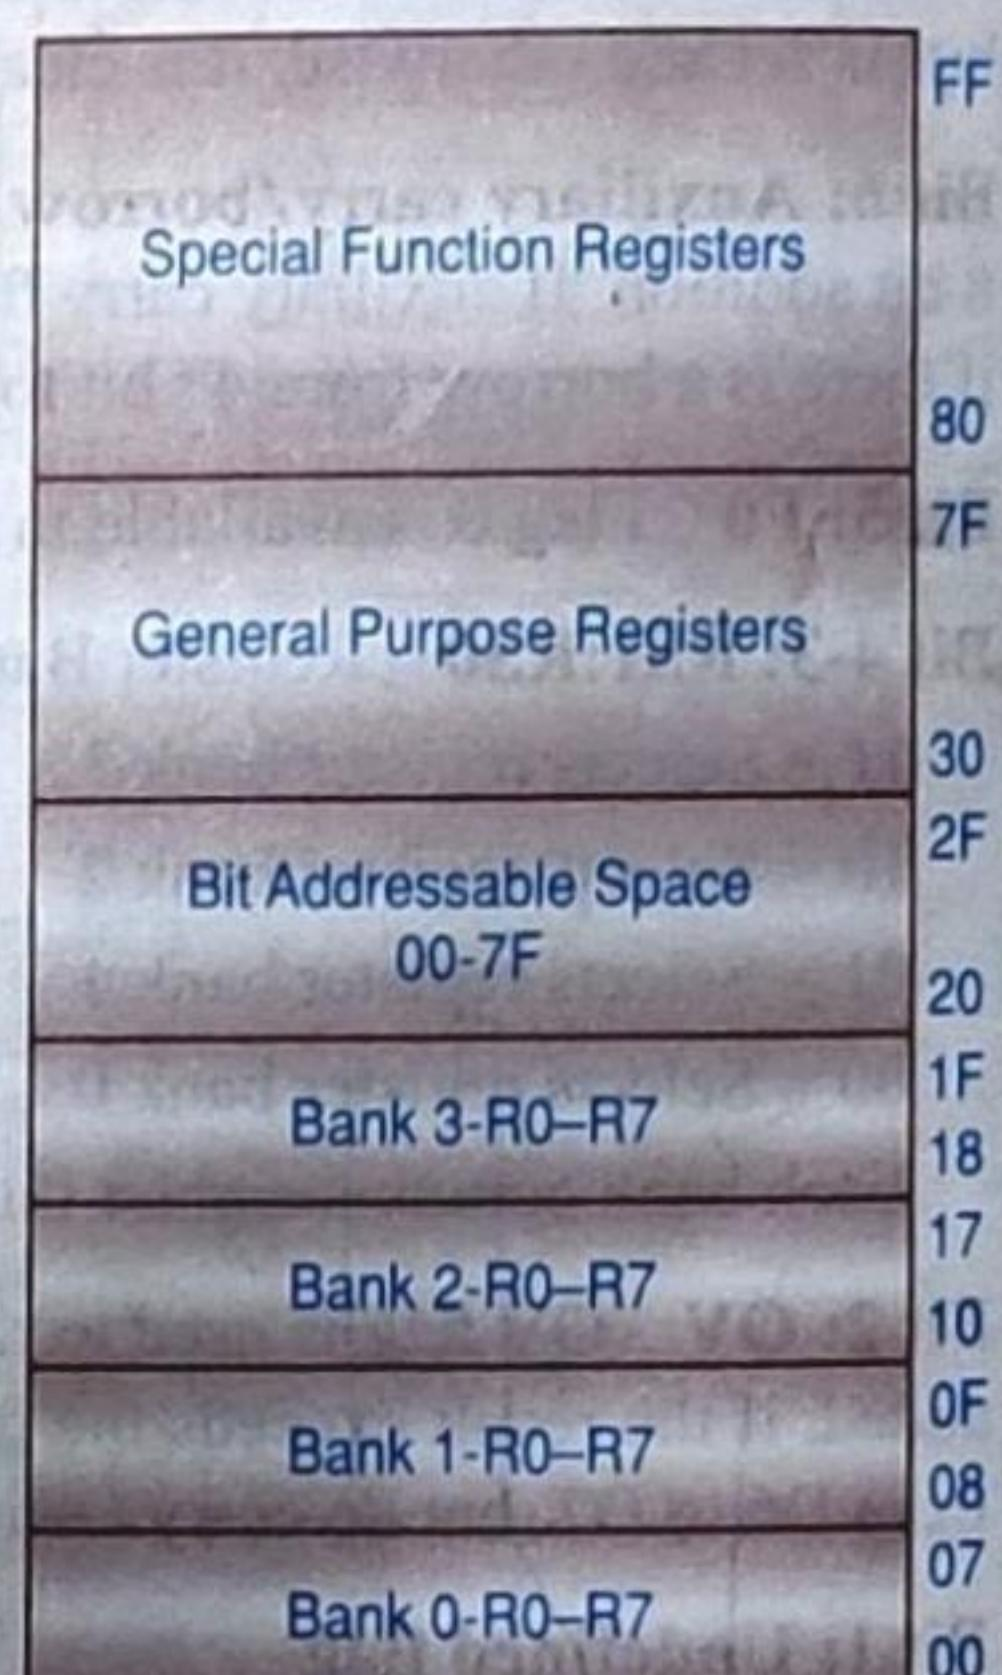

Figure 2.3 Internal RAM organisation
The 256 bytes of internal memory are organised as shown in Fig. 2.3. Data memory is divided into two groups of memory size 128 bytes each. In the first 128 bytes, the user data can be stored in register banks, bit addressable RAM and in general purpose registers. The next 128 bytes are special function registers.
**SFR Register** The SFR registers are located within the internal memory in the address range 80H to FFH, as shown in Fig. 2.3. Not all locations within this range are defined. Each SFR has a very specific function. They have an address (within the range 80H to FFH) and a name, which reflects the purpose of the SFR. Although 128 bytes of the SFR address space is defined, yet only 21 SFR registers are defined in the standard 8051. Undefined SFR addresses should not be accessed, as this might lead to some unpredictable